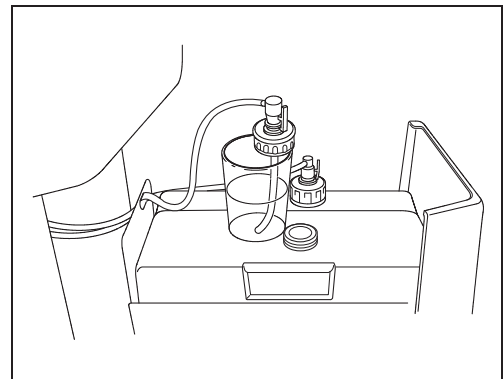

Figure 9.24
- 22** Put the detached cap and the uptake tube in the beaker of the 70% ethyl alcohol or 70% isopropyl alcohol. (See Figure 9.24)